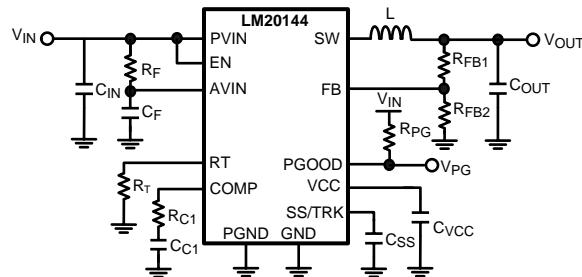

Figure 28. Typical Application Circuit
The LM20144 switching regulator features all of the functions necessary to implement an efficient low voltage buck regulator using a minimum number of external components. This easy to use regulator features two integrated switches and is capable of supplying up to 4A of continuous output current. The regulator utilizes peak current mode control with nonlinear slope compensation to optimize stability and transient response over the entire output voltage range. Peak current mode control also provides inherent line feed-forward, cycle-by-cycle current limiting and easy loop compensation. The switching frequency can be varied from 500 kHz to 1.5 MHz. The device can operate at high switching frequency allowing use of a small inductor while still achieving high efficiency. The precision internal voltage reference allows the output to be set as low as 0.8V. Fault protection features include: current limiting, thermal shutdown, over voltage protection, and shutdown capability. The device is available in the HTSSOP 16-pin package featuring an exposed pad to aid thermal dissipation. The LM20144 can be used in numerous applications to efficiently step-down from a 5V or 3.3V bus. The typical application circuit for the LM20144 is shown in Figure 28 in the design guide.
This section walks the designer through the steps necessary to select the external components to build a fully functional power supply. As with any DC-DC converter numerous trade-offs are possible to optimize the design for efficiency, size, or performance. These will be taken into account and highlighted throughout this discussion. To facilitate component selection discussions the circuit shown in Figure 28 below may be used as a reference. Unless otherwise indicated all formulas assume units of amps (A) for current, farads (F) for capacitance, henries (H) for inductance and volts (V) for voltages.
To prevent high frequency noise spikes from disturbing the sensitive analog circuitry connected to the AVIN and AGND pins, a high frequency RC filter is required between PVIN and AVIN. These components are shown in Figure 28 as C_F and R_F . The required value for R_F is 1Ω. C_F must be used. Recommended value of C_F is 1.0 µF. The filter capacitor, C_F should be placed as close to the IC as possible with a direct connection from AVIN to AGND. A good quality X5R or X7R ceramic capacitor should be used for C_F .